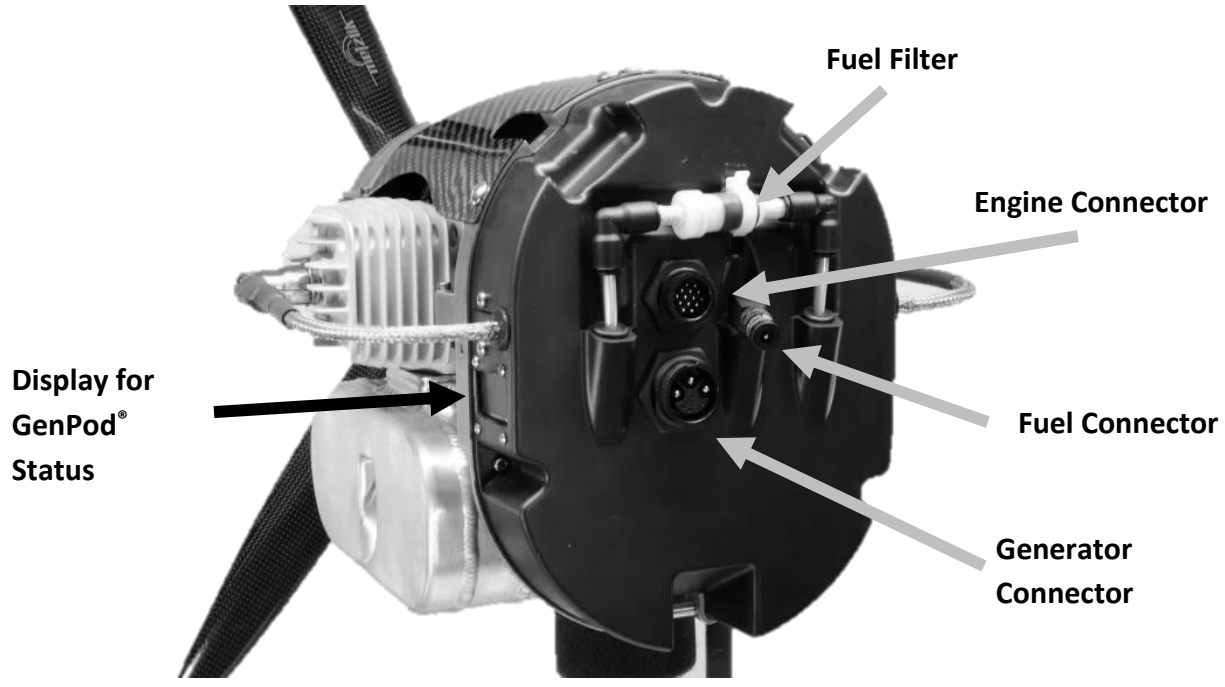

Figure 1. GenPod® Connections and Components
5. The GenPod® uses a Sullivan PMU and alternator. Connect the Engine as shown in Figure 1.